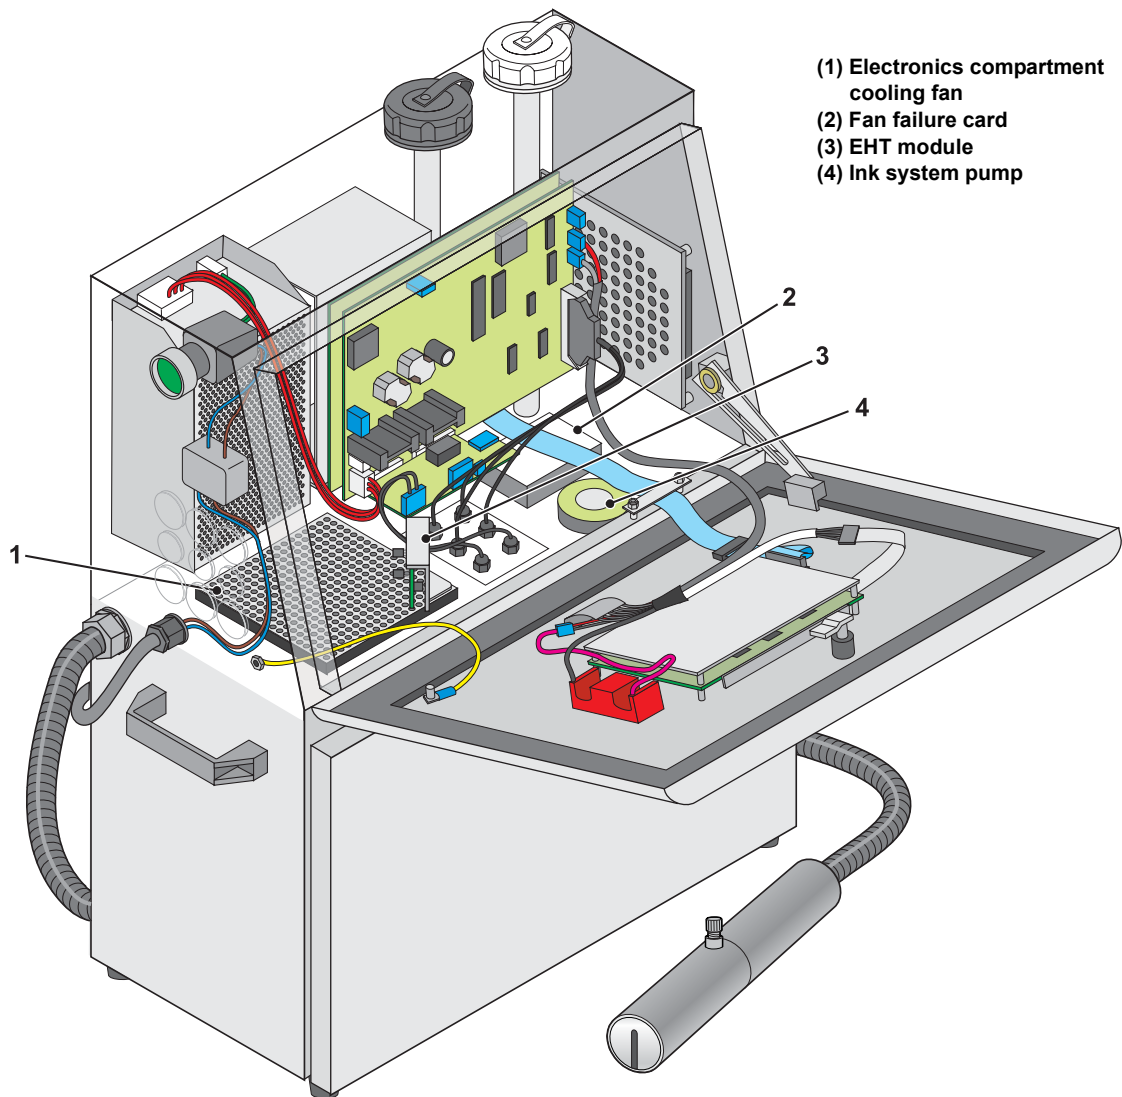

Figure 6-15. Printer Electronics Modules
The electronics compartment cooling fan (Item 1 in Figure 6-15) draws filtered air over the electronics system to cool it. The fan is also used to dilute and disperse vapour produced from the ink system. A fan failure card (3) monitors the flow of cooling air in the filter compartment, if the fan fails then the flow of cooling air stops, this is detected by the fan failure card which outputs an alarm signal to the CPU via the I/O board.